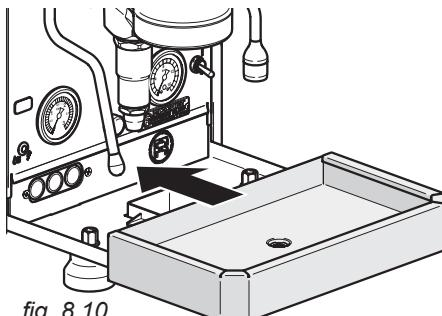

fig. 8.10
2. First reassemble the tray, making sure that it is placed and inserted (with horizontal movement) until it reaches the "stop", after "hooking" has taken place (a magnetic click at the end of the stroke should be heard - fig. 8.10).